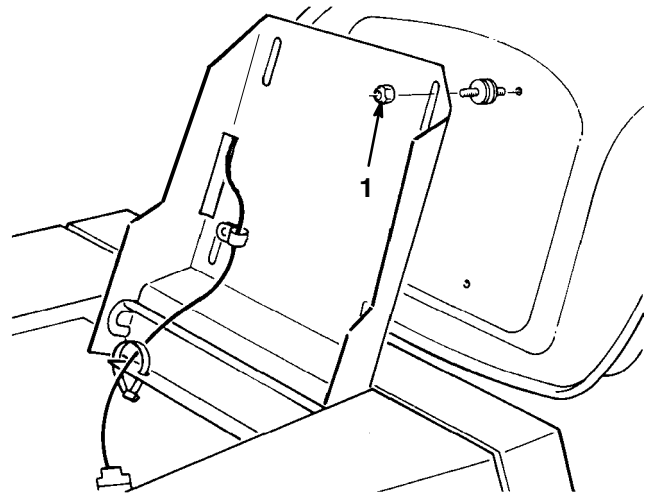

Figure 11
1. Raise the seat and loosen the locknuts (Fig. 11).